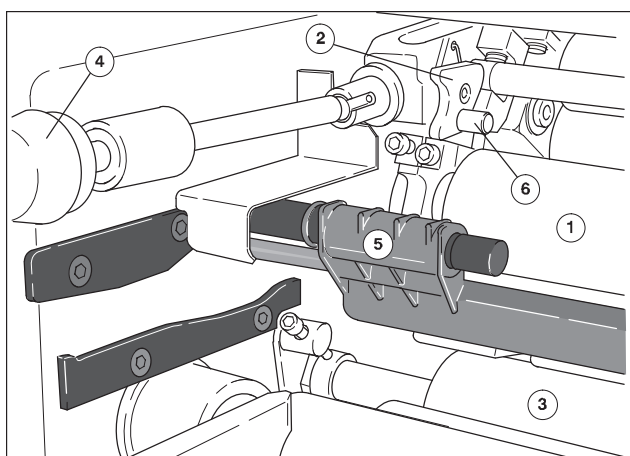

Fig. 63 Connecting dampening system 1 with inking unit 1
2. Set the control knob for the dampening solution metering (Fig. 63/4) to "5".
4. Detach the rear edge of the **dampening solution pan** (Fig. 63/5) from the two lateral support bolts and **pull out** of the press.
5. Raise levers on D.S. (Fig. 63/2) and O.S. simultaneously.
6. Press the dampening roller (Fig. 63/1) with the bolt (Fig. 63/6) downwards against the spring pressure, to connect the dampening system and inking unit.